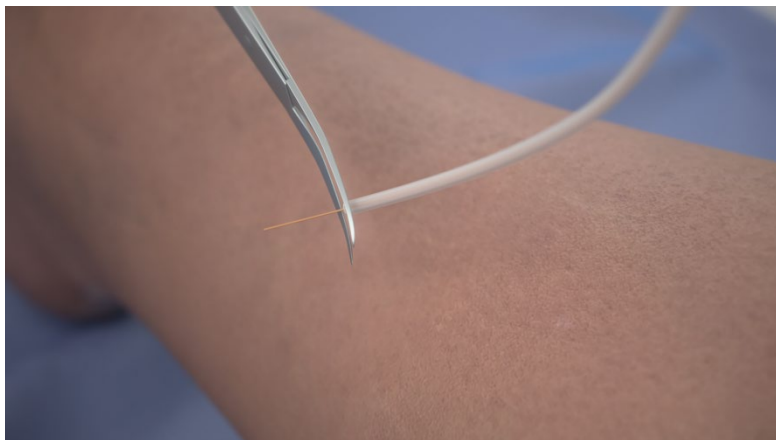

Figure 5
5. With the receiver fully connected, cut the excess portion of the receiver flush with the lumen to decrease the possibility of the receiver disconnecting from the electrode array. (Figure 5)